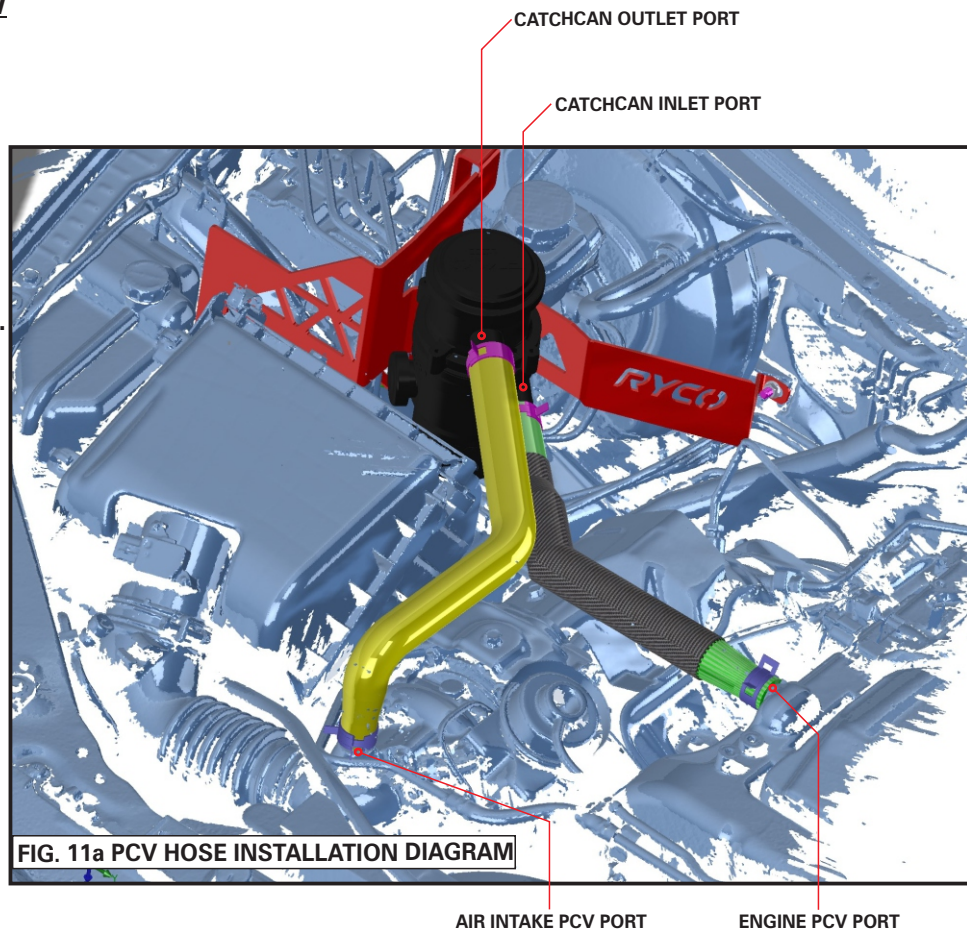

FIG. 11a PCV HOSE INSTALLATION DIAGRAM
13. Install the other end of the MH9810B PCV hose on to the lower, inlet port, of the RCC350 Catchcan and tighten with the MS4091 hose clamp as shown in Fig. 11a & 11b.
14. Install the larger end of the MH9810A hose on to the upper, outlet port, of the RCC350 Cathcan and tighten with a MS4091 hose clamp. Install the other end of the MH9810A PCV hose on to the Air Intake PCV port and tighten with a MS4094 hose clamp as shown in Fig. 11a & 11b.